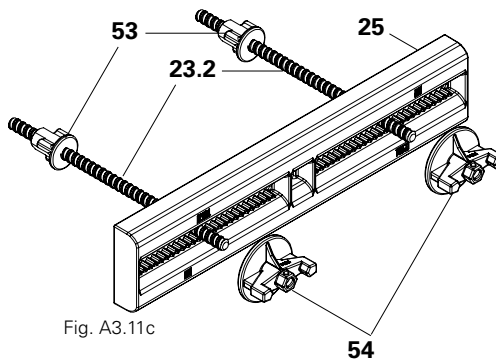

Fig. A3.11c
4. Screw the DW 15 wingnut counterplate (**54**) onto the DUO corner tie (**23.2**) by hand. (Fig. A3.11c + A3.11d)